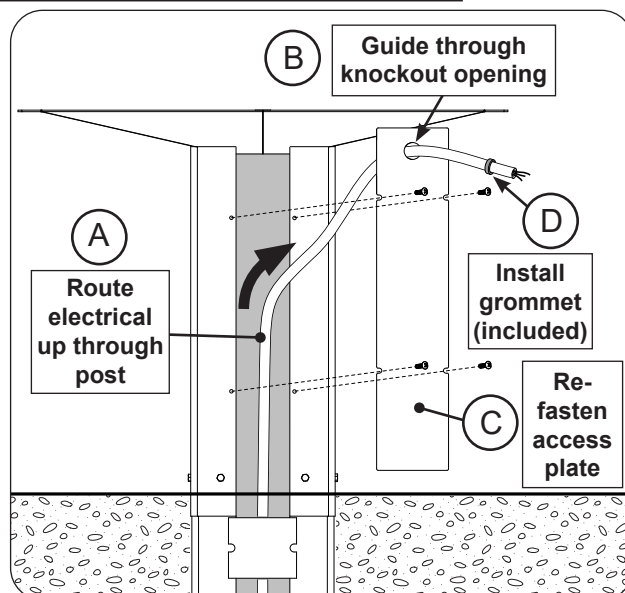

Fig. 32-1 Remove access plate and knock-out
- Guide wiring up the post assembly (See Fig. 32-1, A).
- Feed the electrical through the knockout hole of the access plate (see Fig. 32-1, B) and re-fasten the access plate (see Fig. 32-1, C).
- Install the grommet (included) onto the electrical and slide the grommet up against the knockout hole and snap into place (See Fig. 32-1, D).